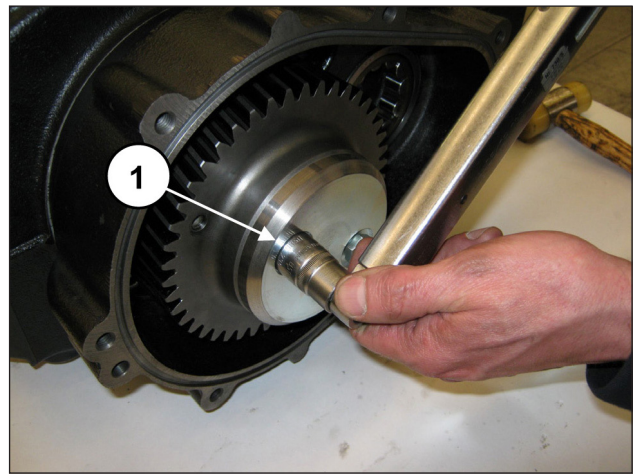

Fig. 77
Calibrate the screws with a torque wrench as indicated in chapter 3 (pos. ①, Fig. 77).